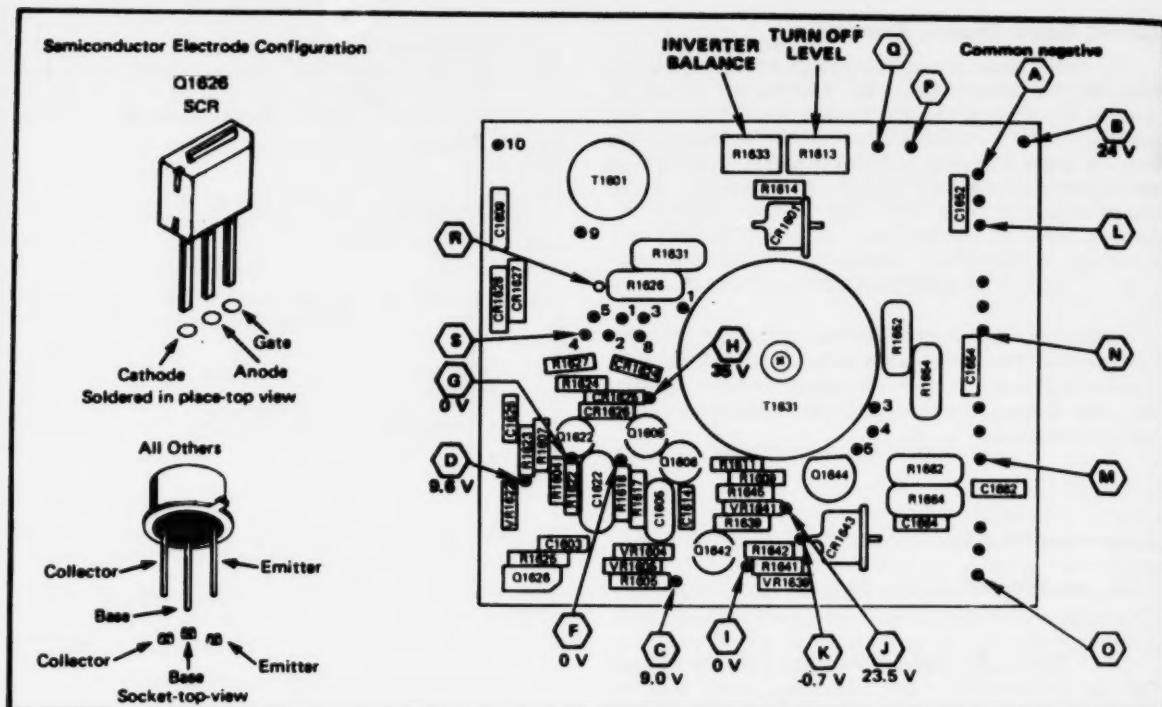
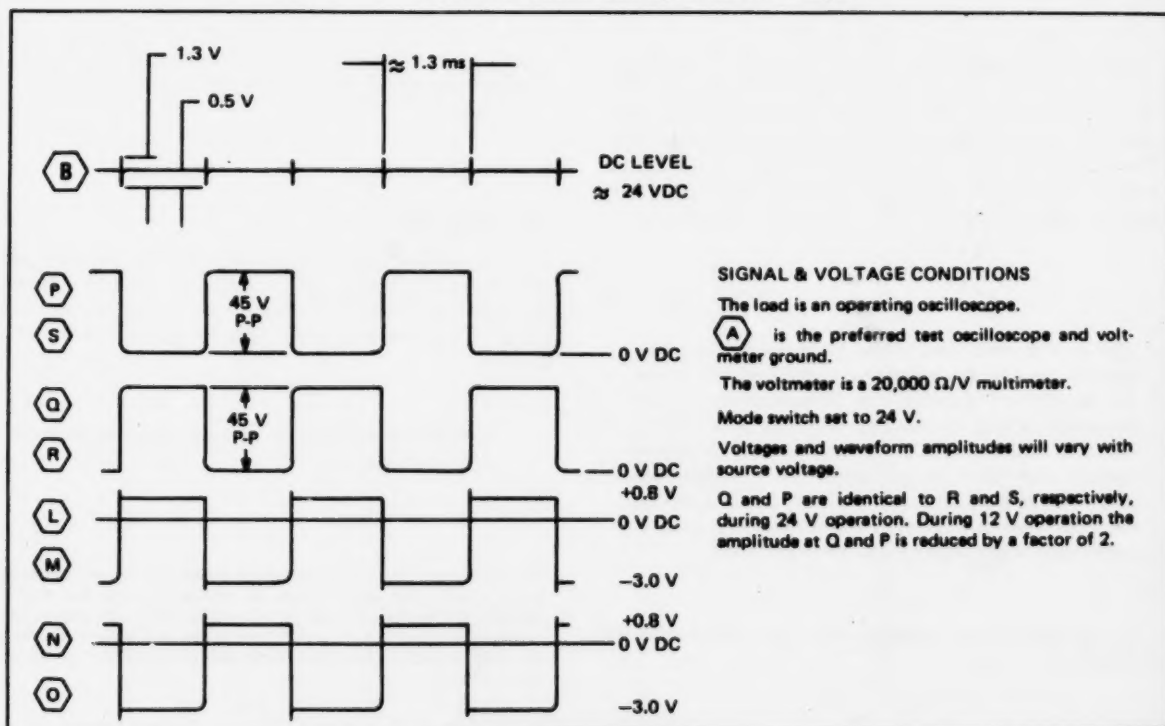

Figure 6-6. Circuit board layout with test voltages.
Figure 6-7. Typical Idealized waveforms.
Option 7 may be checked without removing it from the oscilloscope. Test voltages are shown in figure 6-6; idealized waveforms in figure 6-7. The reference letters (A), (B), etc., refer to points indicated on the schematic and circuit board illustrations.